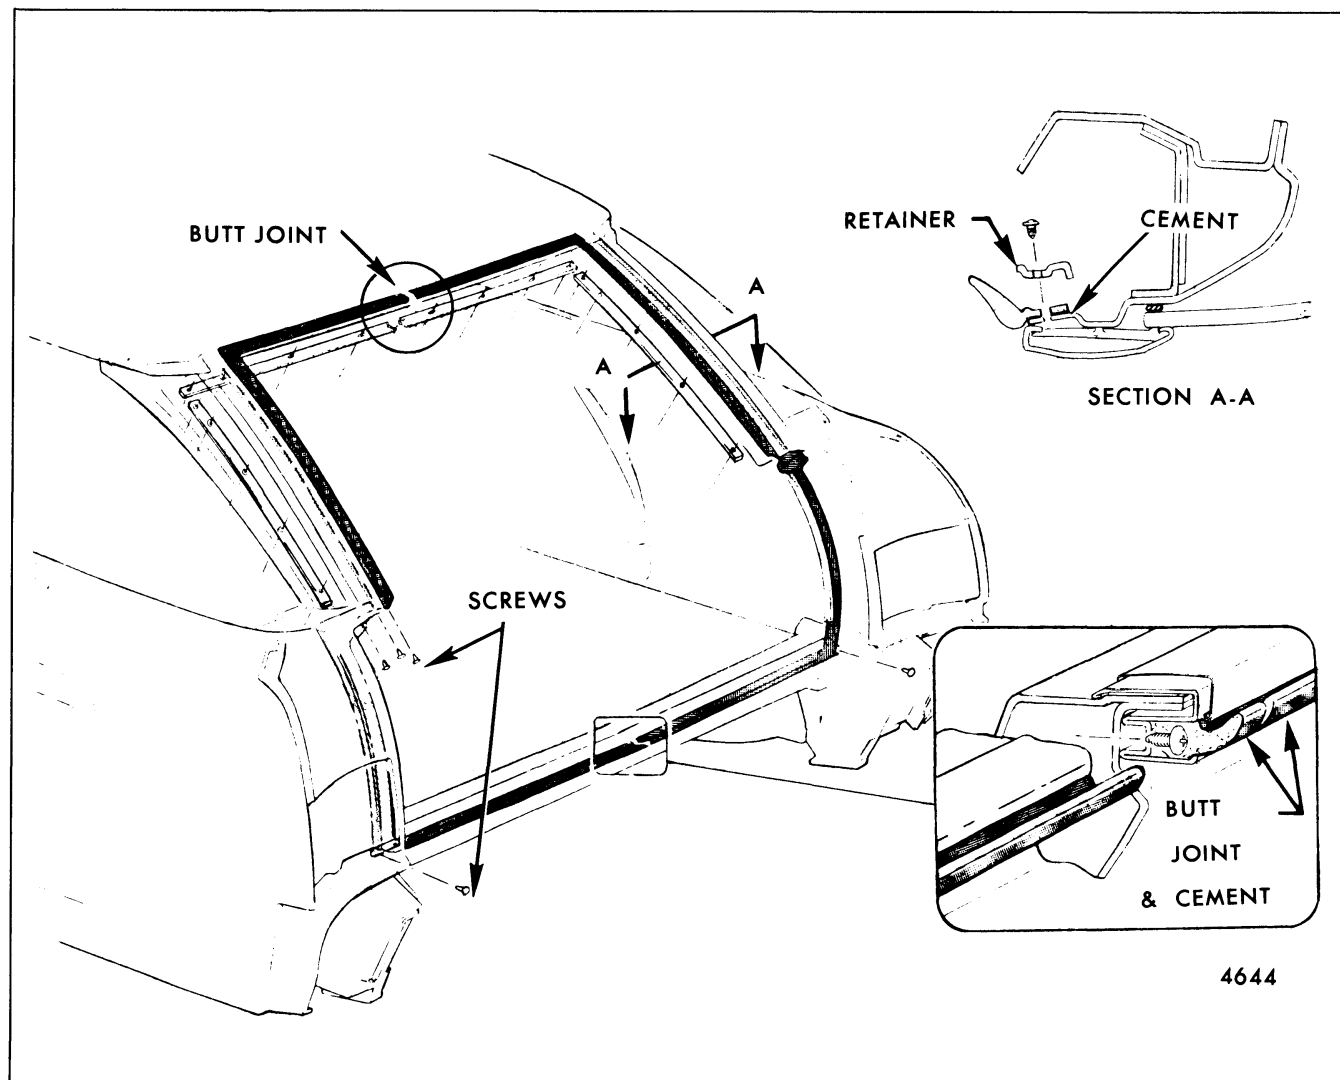

Fig. 7-83-Back Body Opening Weatherstrip Retention
The back body opening weatherstrip is of two-piece design with a butt joint located at the bottom and top of the opening (Fig. 7-83). Below the belt, the weatherstrip is cemented into screw applied channel-type retainers. The weatherstrip includes a sculptured detail area (referred to as the "mucket") at the beltline to seal the body opening off-set. At this area, the weatherstrip is retained by cement, screws and nylon drive nail fasteners. Above the beltline, the weatherstrip is retained by cement and screw-attached retainers applied over the weatherstrip.
3. Remove screws securing weatherstrip retainers above beltline, at "mucket" areas (including drive nail fasteners) and at lower corners of back body opening (Fig. 7-83).